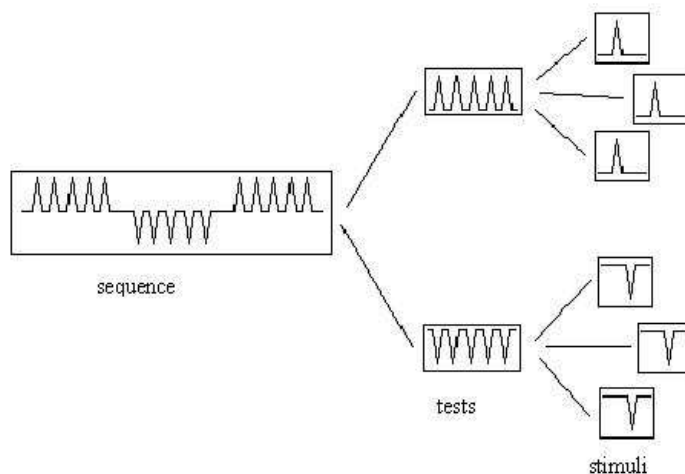

Figure 1: Sequence, tests and stimuli.
- **Sequence** Tests that together answer a certain question. See figure 1.
A sequence consists of many tests in a row; see figure 1. These tests and sequences are created, edited and deleted under *Sequence*→*Settings*.